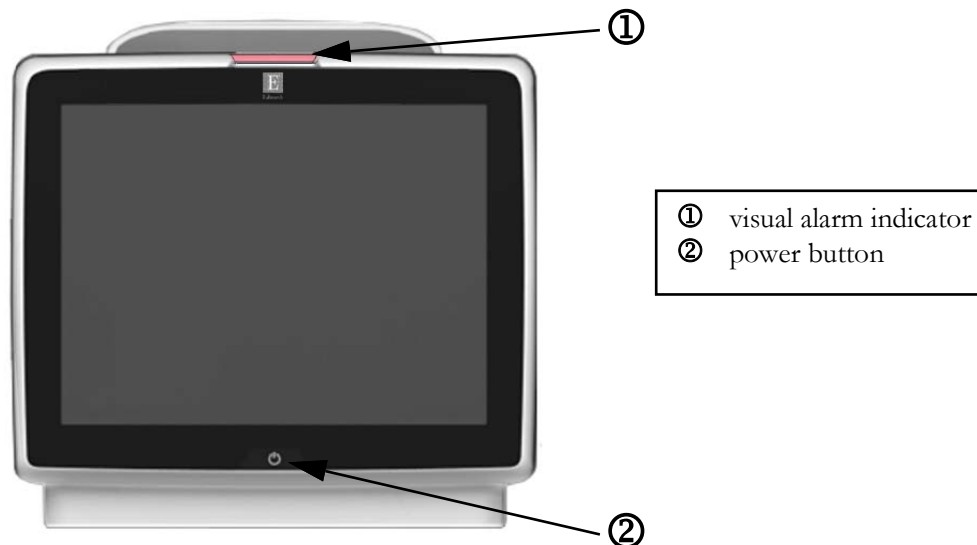

Figure 3-1 HemoSphere advanced monitor front view
To power the monitor off, touch the power button. See ② in Figure 3-1 on page 67. The following options will be displayed: